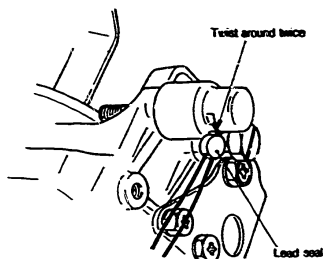

Fig. 9 Installing the lead seal
4. Twist the two ends of the wire around twice and then fit the lead seal on the wire. (Fig. 9)